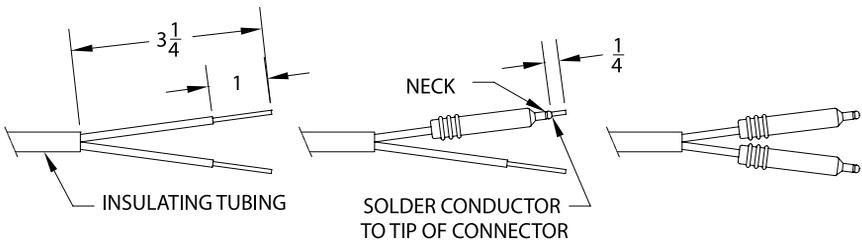

Figure 2. High Voltage Cable Terminations
- B. **Connect static bar** by cutting the high voltage cable to length, terminating the leads, and connecting to the Power Supply: (See **Figure 2**)